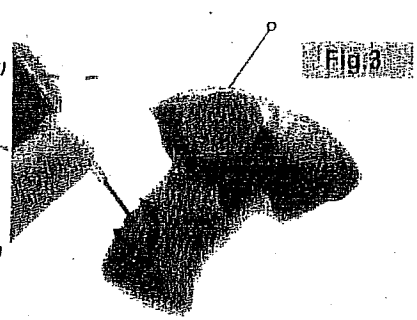

Fig. 3
1. Use a Phillips head screwdriver to loosen the screw (turn counter clockwise) on the battery compartment cover. (Fig. 3)